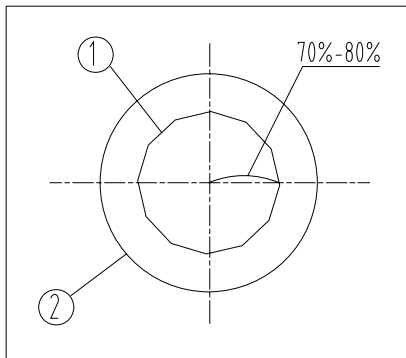

Fig. 13
2. As the contrast is usually low, rotate the handle③ to make the arrowhead pointed to the related magnification position on condenser base④, namely, to adjust the N.A. of illumination to 70%-80% of the N.A. of objective. The eyepiece can be taken off when it's necessary to observe from the tube.
Adjust the ring③ until see the figure as shown in Fig. 13, to adjust the proportion (see Fig. 13&14, ① is the image of aperture diaphragm, ② is the edge of objective).